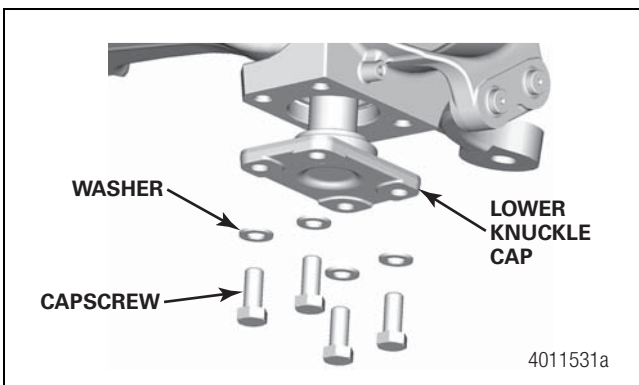

Figure 7.5
7. Position the lower cap assembly through the bottom bores of the knuckle and housing until the cap is against the knuckle. Figure 7.5.